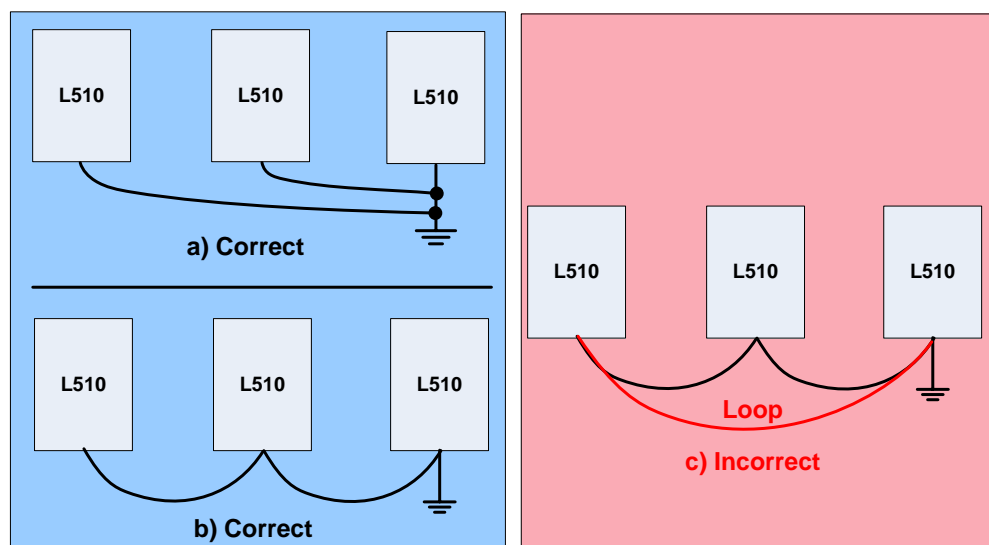

Fig. 3.10.1 Inverter Grounding
1. Connect the ground terminal (E) to ground having a resistance of less than 100Ω.
4. When using more than one inverter, be careful not to loop the ground wire, as shown below in Fig. 3.10.1.